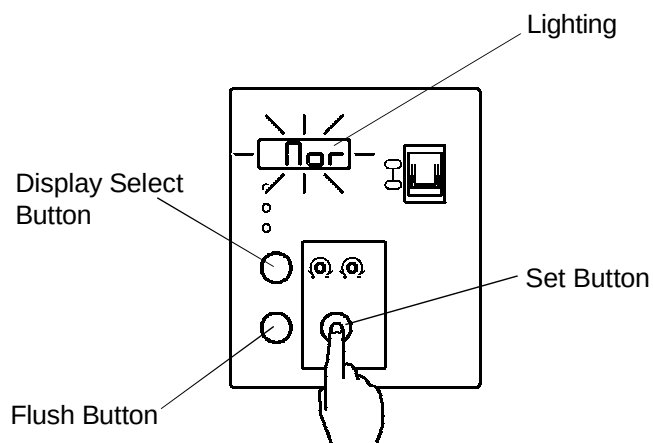

Fig. 30
6) Check that the Display Window is showing "Nor". "Nor" indicates that the unit is currently in the Normal Mode. See Fig. 30.